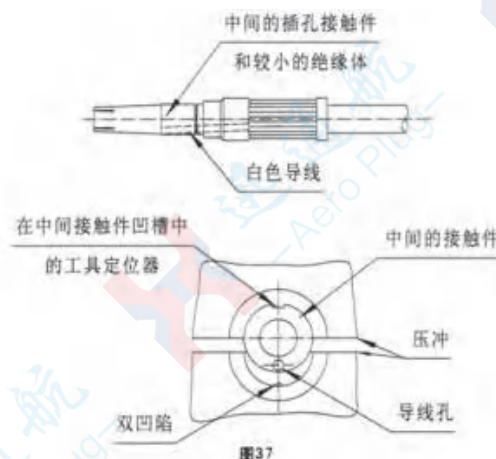

图37
⑤ As shown in Figure 37, proceed as follows: